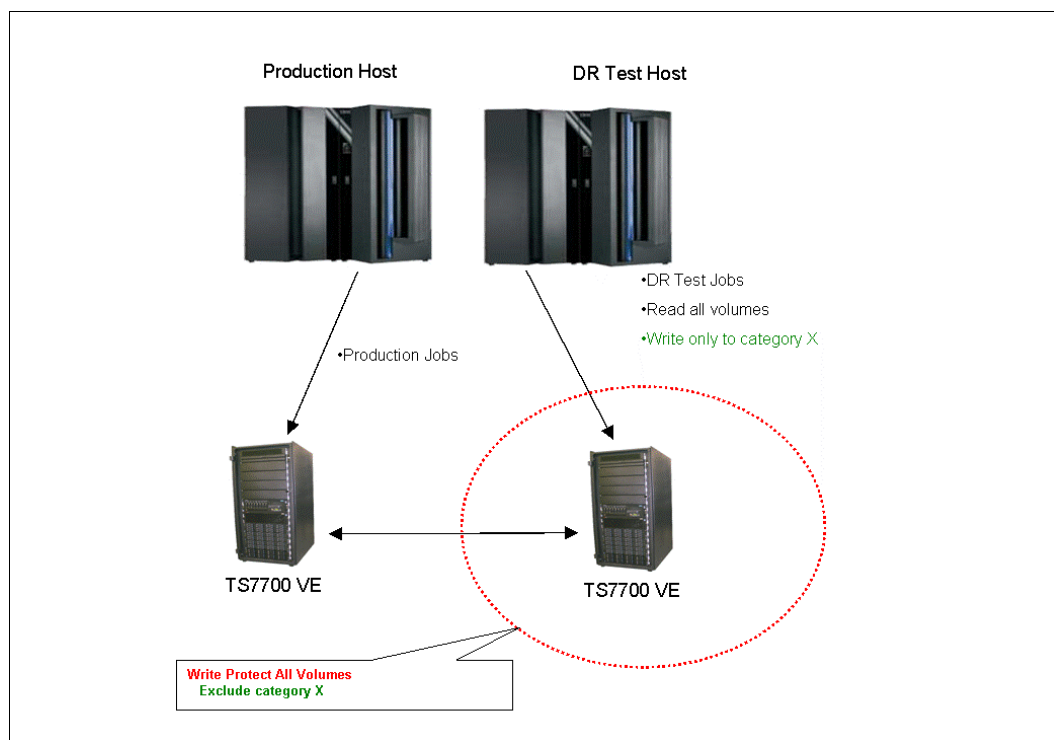

Figure 1-2 Write-protect mode
► Selective write-protect for disaster recovery (DR) testing
To prevent the DR host test applications from overwriting any production data, the TS7700 can be put into a Write Protect Mode (Figure 1-2 on page 6), which prevents *any* data in the TS7700 from being created or changed. However, customers must be able to create new test data too, ideally targeting the same TS7700. This situation creates a conflict because some volumes must only be read, others must be read/write. Therefore, R1.7 introduces a function that is referred to as *selective write protect for disaster recovery (DR)*, which offers the following features: